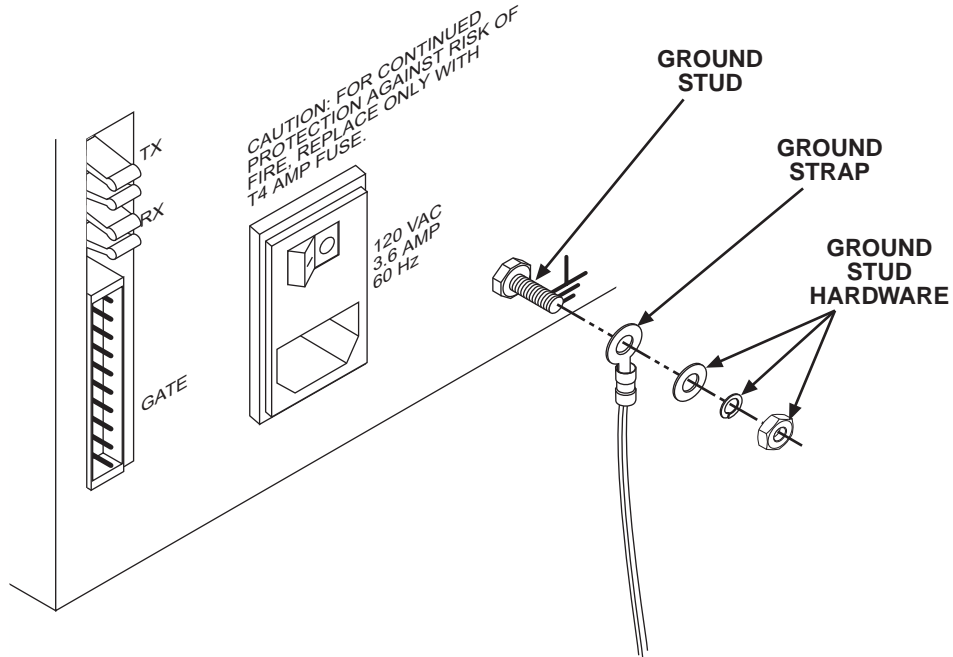

Figure 2-12. Grounding the control unit
5. Install the ground strap onto the control unit's ground stud using the grounding hardware as shown in figure 2-12.